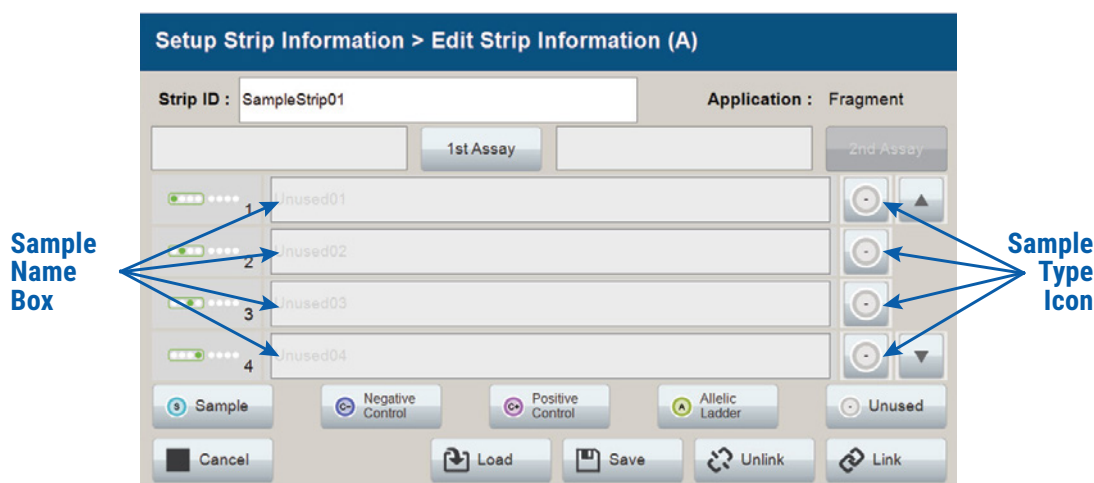

Figure 12. Sample Type and Sample Name on 'Edit Strip Information' screen.
- Select a sample type on the 'Edit Strip Information' screen (Figure 12). Sample types must be selected for each well position before the **Sample Name** box becomes active for entry of sample name. Sample types are as follows.
- To assign a sample type to a well, select the appropriate sample type along the bottom of the 'Edit Strip Information' screen (Figure 12), and then select the **Sample Type** icon to the right of the sample name field for the desired well. This icon will then display the sample type selected for that well (Figure 13).